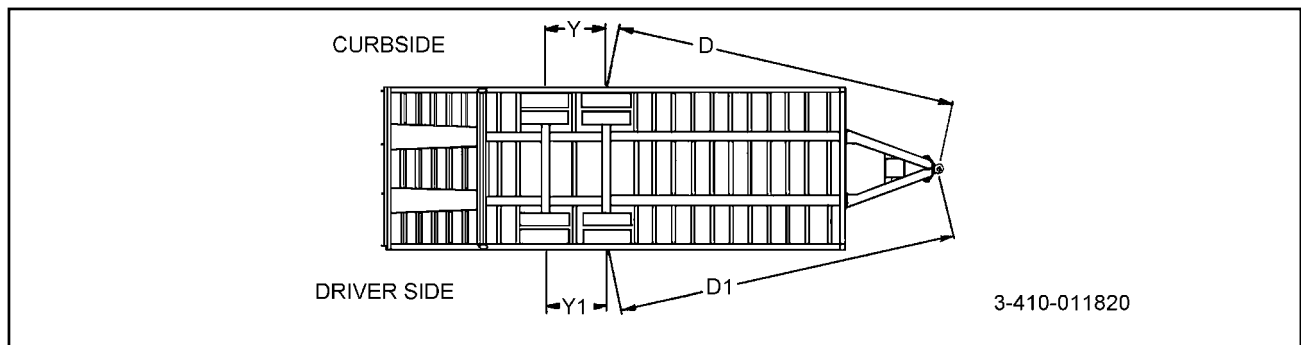

Figure 4-8 Checking Axle Alignment
4. Measure (D) from the plumb bob to the center point on one end of the axle. Record this measurement (See Figure 4-8).
5. Measure (D1) to the other end of the axle in the same manner as in Step 4. Record this measurement (See Figure 4-8).